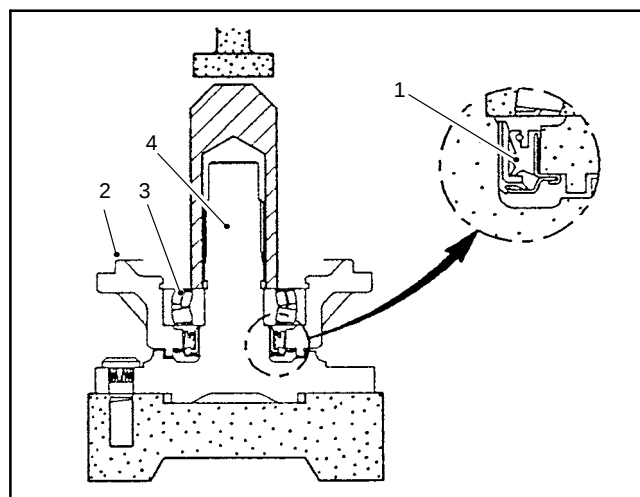

Figure 77
1. Coat new axle shaft seal with grease and install in axle cover as shown (Fig. 77).
2. Press the axle cover and bearing assembly onto the axle shaft. Press only on the inner race of the cover bearing (Fig. 77).